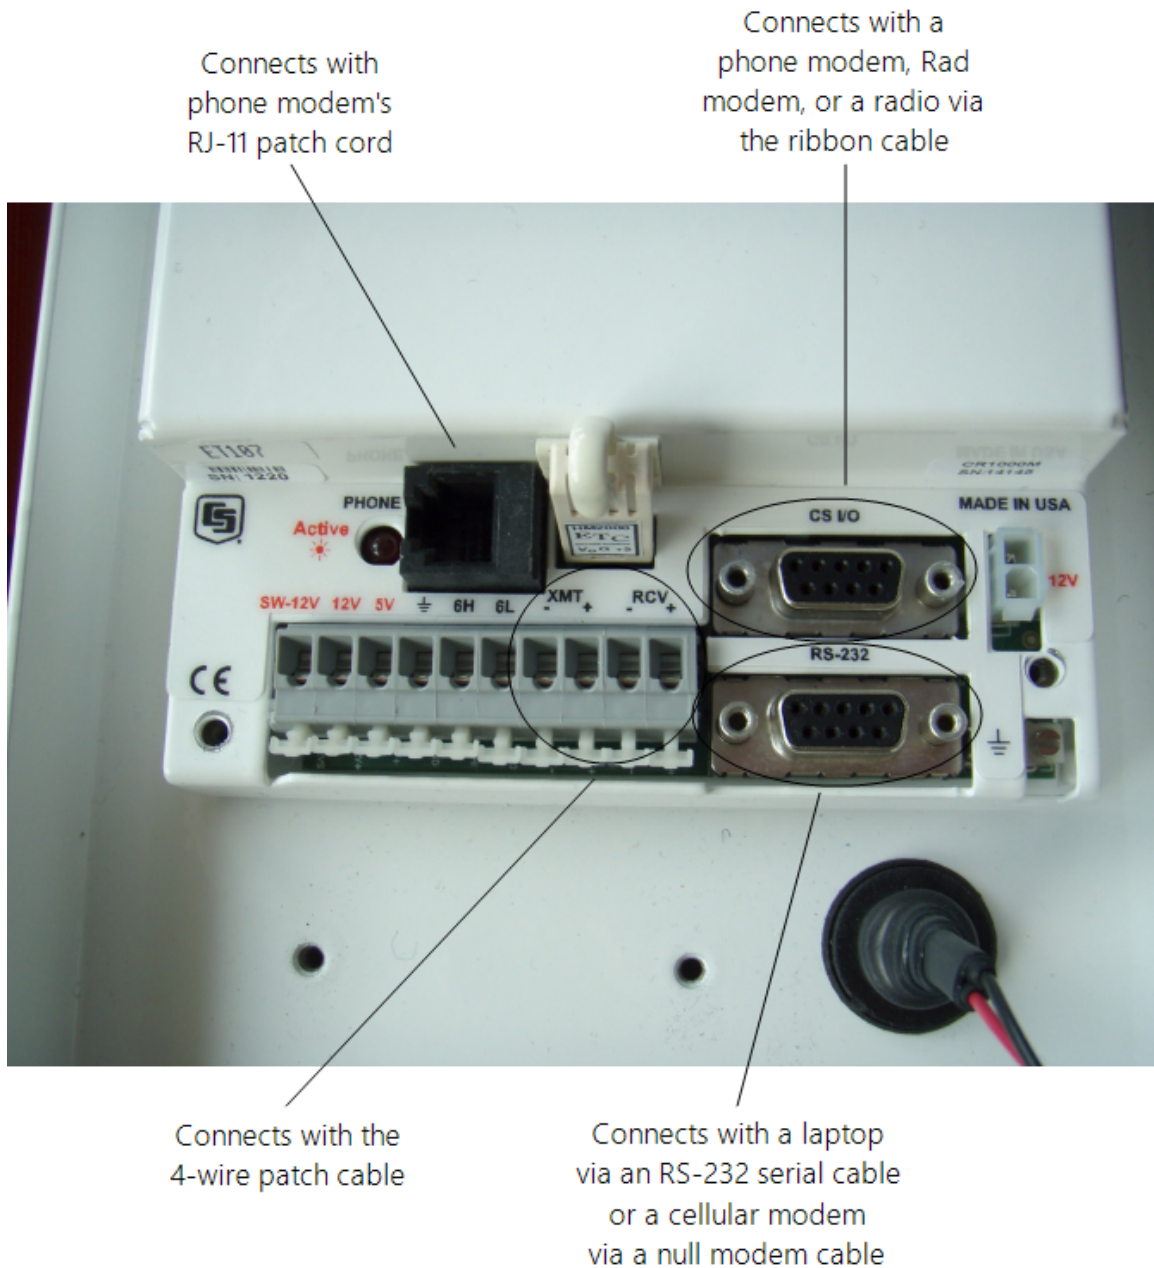

FIGURE 6-22. Close-up of the terminals and 9-pin ports in the ET107 (battery not shown)
The ET107 station does not require an interface device for direct RS-232 communication. The inside of the enclosure has a RS-232 and CS I/O port available for communication (see FIGURE 6-22 (p. 37)). Most standard communication options use the CS I/O port leaving the RS-232 port free for direct communication with a laptop or desktop computer using a standard RS-232 serial cable. The data logger used in the ET107 station can communicate with more than one device at a time allowing troubleshooting to be done in the field with a laptop while remote communication devices are accessing the station.
2. Connect the modem 9-pin port to the enclosure CS I/O port with the ribbon cable supplied with the enclosure (FIGURE 6-22 (p. 37), FIGURE 6-23 (p. 38)).